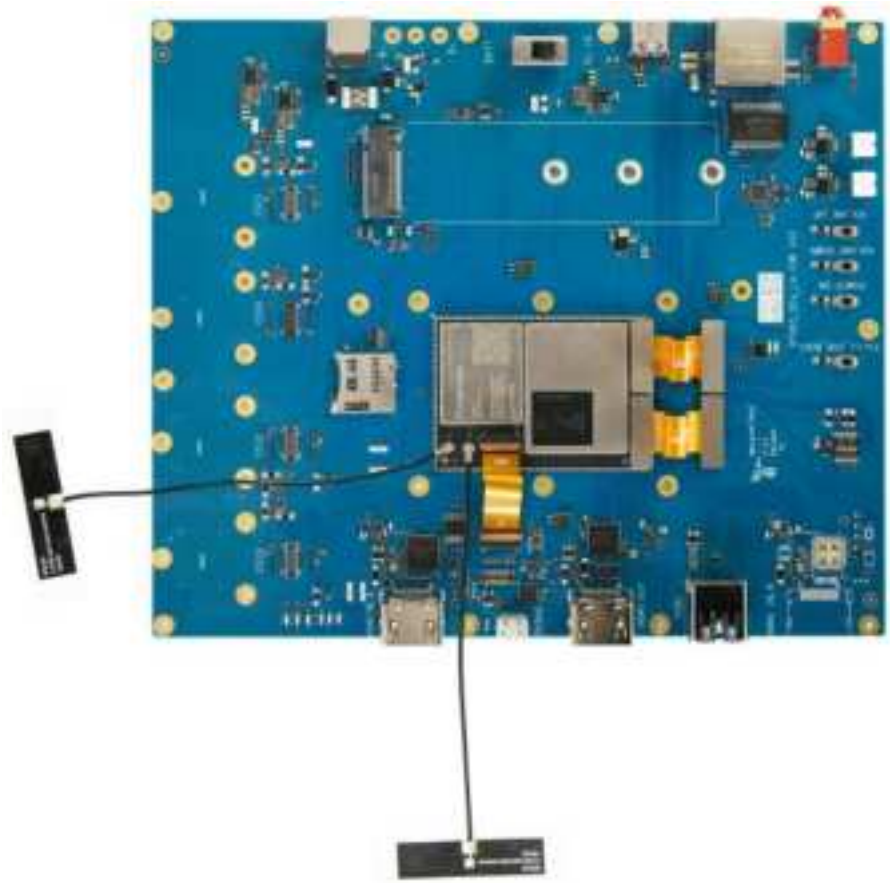

Figure 3-12. Wi-Fi Network Connection
Step 1. Connect your antennas to the board. Refer to Figure 3-12.